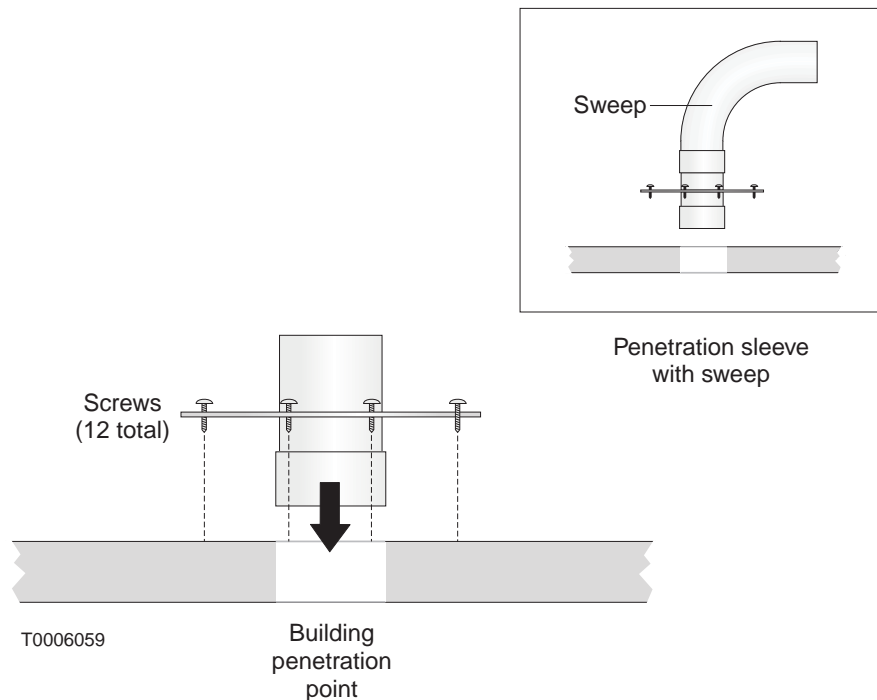

Figure 4-4 Installing the RT penetration sleeve
1. Use twelve screws to attach the RT penetration sleeve (sleeve and coupling) to the building surface at the building penetration point. See figure 4-4.
Note: If space is limited, use a 90° sweep, as illustrated in figure 4-4.
2. Run the cable from the IDU chassis location, through an existing conduit if possible, through the RT penetration sleeve (figure 4-4), to the lightning arrester location. Use a stand so the cable spool spins freely as it is pulled. Leave a service loop.